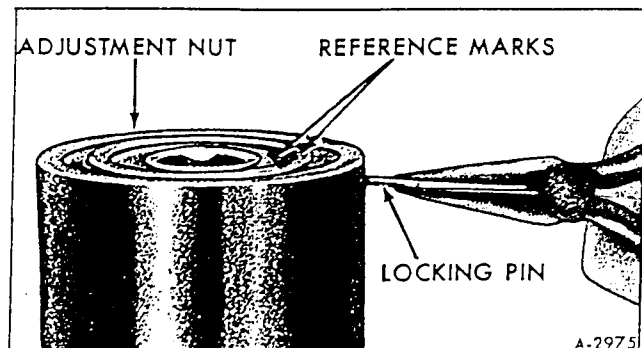

Figure 22 – Reference Marks on Piston and Nut
1. Place reference marks on piston and adjustment nut to assure parts are assembled in exactly the same position (fig. 22). Remove locking pin from valve adjusting nut.